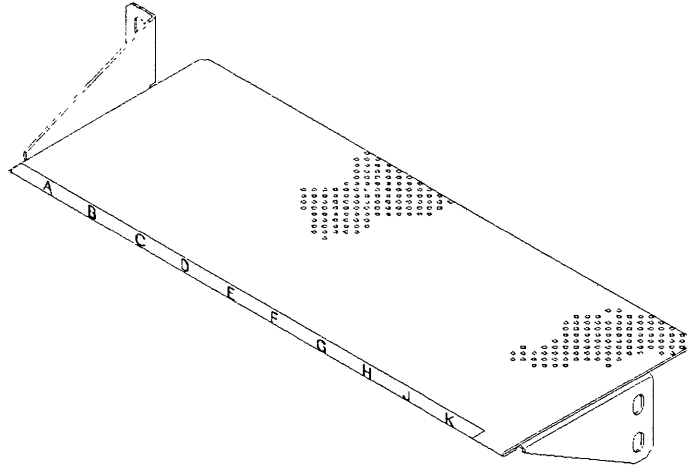

Figure 1-13. Safety Grid (P/N 03F4747)
- Step 3. ____ A safety grid P/N 03F4747 (see Figure 1-13) is supplied in the shipping group for 3745 Model 150 or 170 with LIB2 board(s).